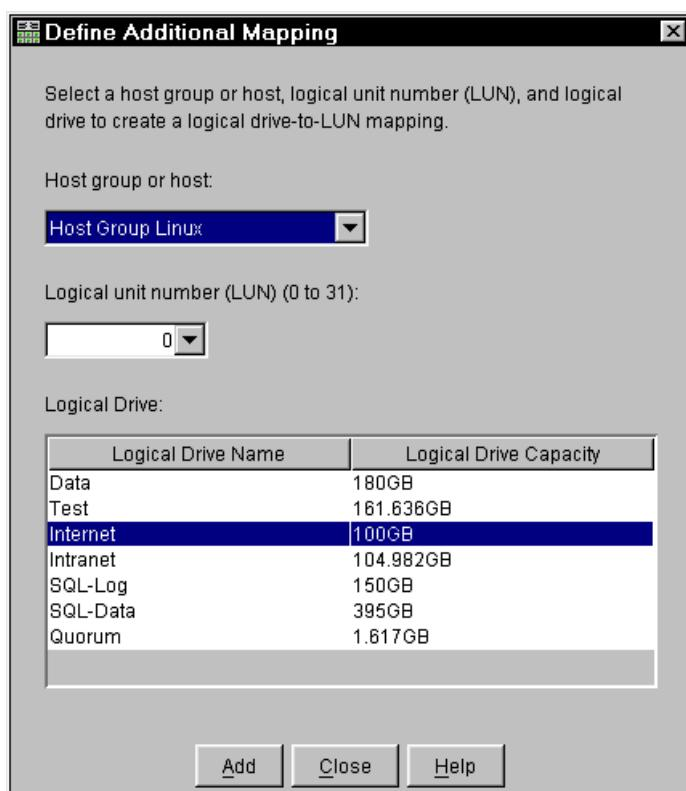

Figure 4-43 Define Additional Mapping
9. In the Define Additional Mapping dialog, select the logical drive you want to map to this host group and assign the correct LUN number (Figure 4-43), according to the mapping table (Table 4-2 on page 86).